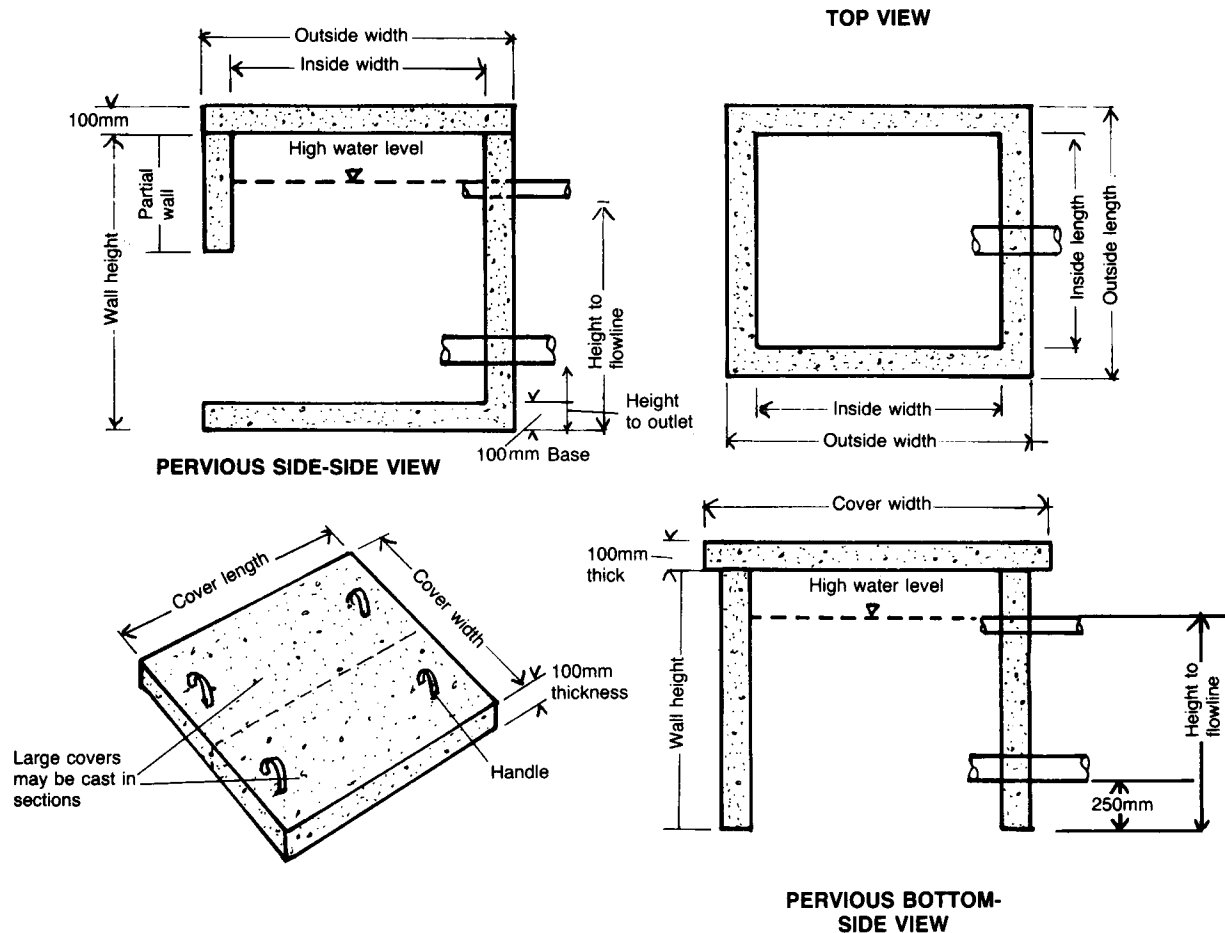

Figure 2. Spring Box Design
(2) A list of all labor, materials and tools needed as shown in Table 1. Ensure that all needed materials are available and at the work site before work begins. Make sure that adequate quantities of materials are available to prevent construction delays.
(3) A plan of the spring box with all dimensions as shown in Figure 2. This plan shows a top, side, and front view, and the dimensions of a cover for a spring box 1m x 1m x 1m.